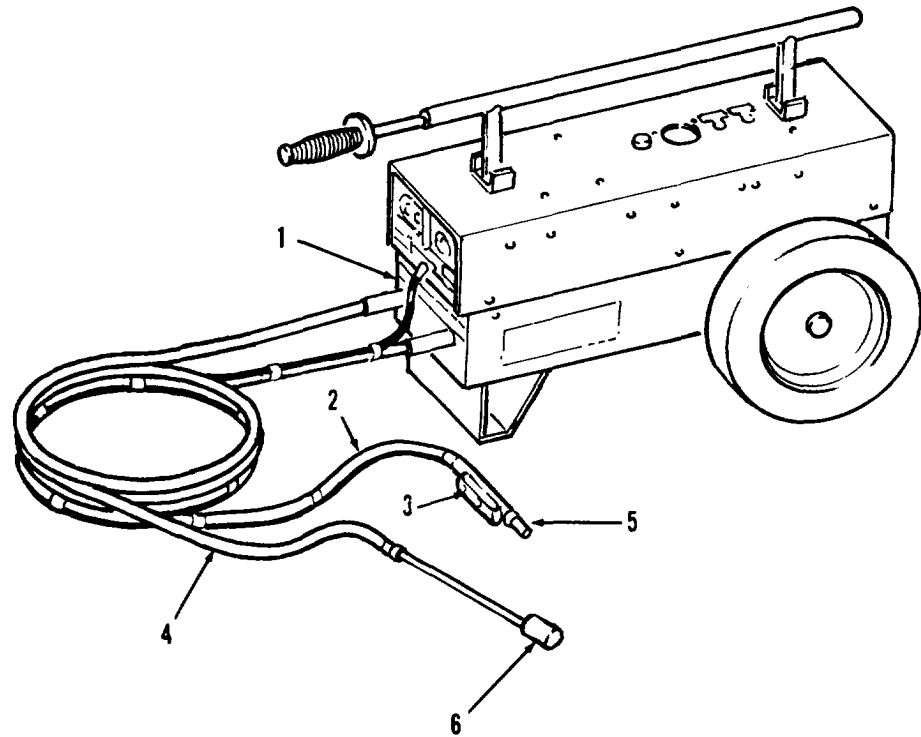
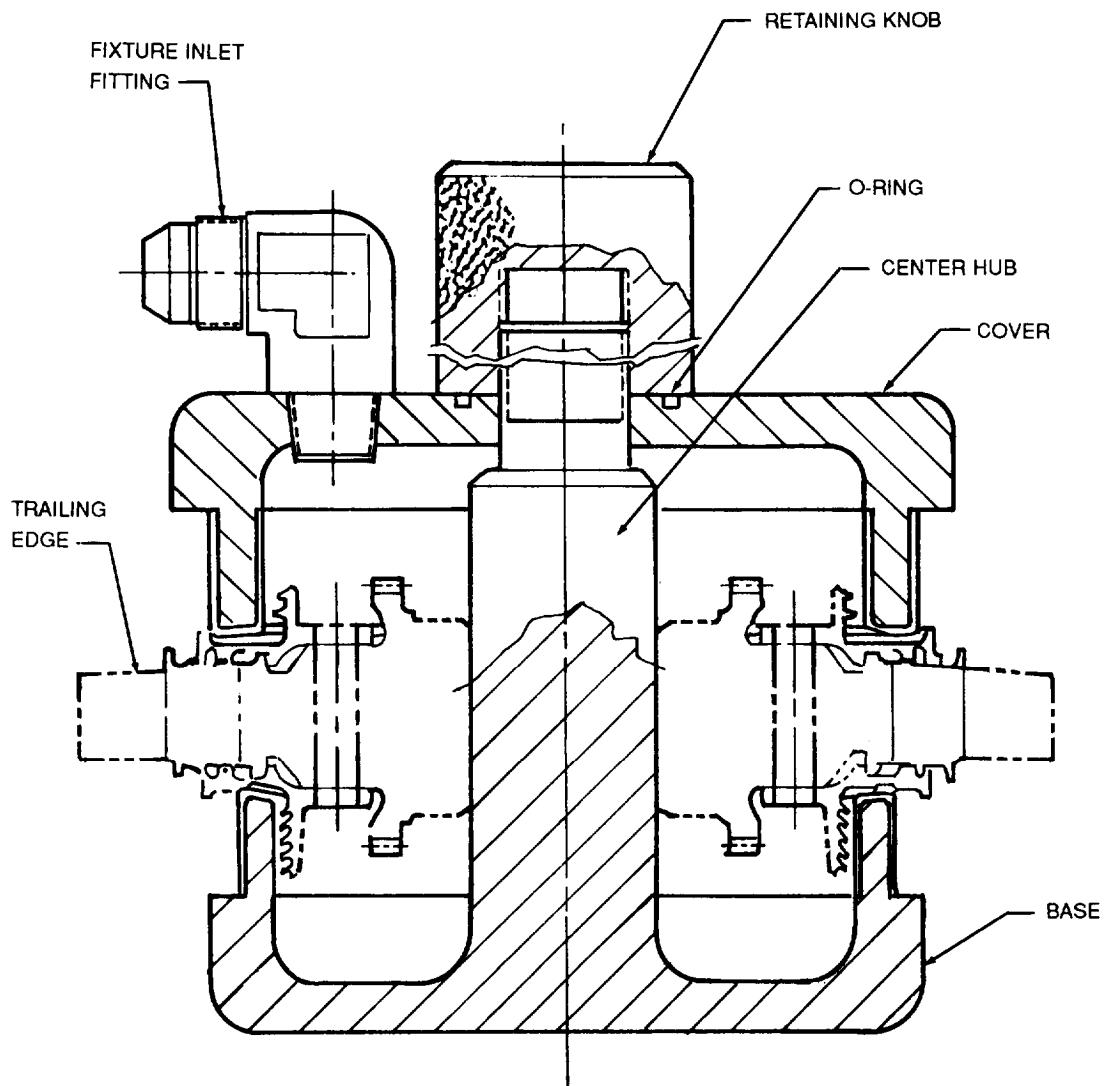
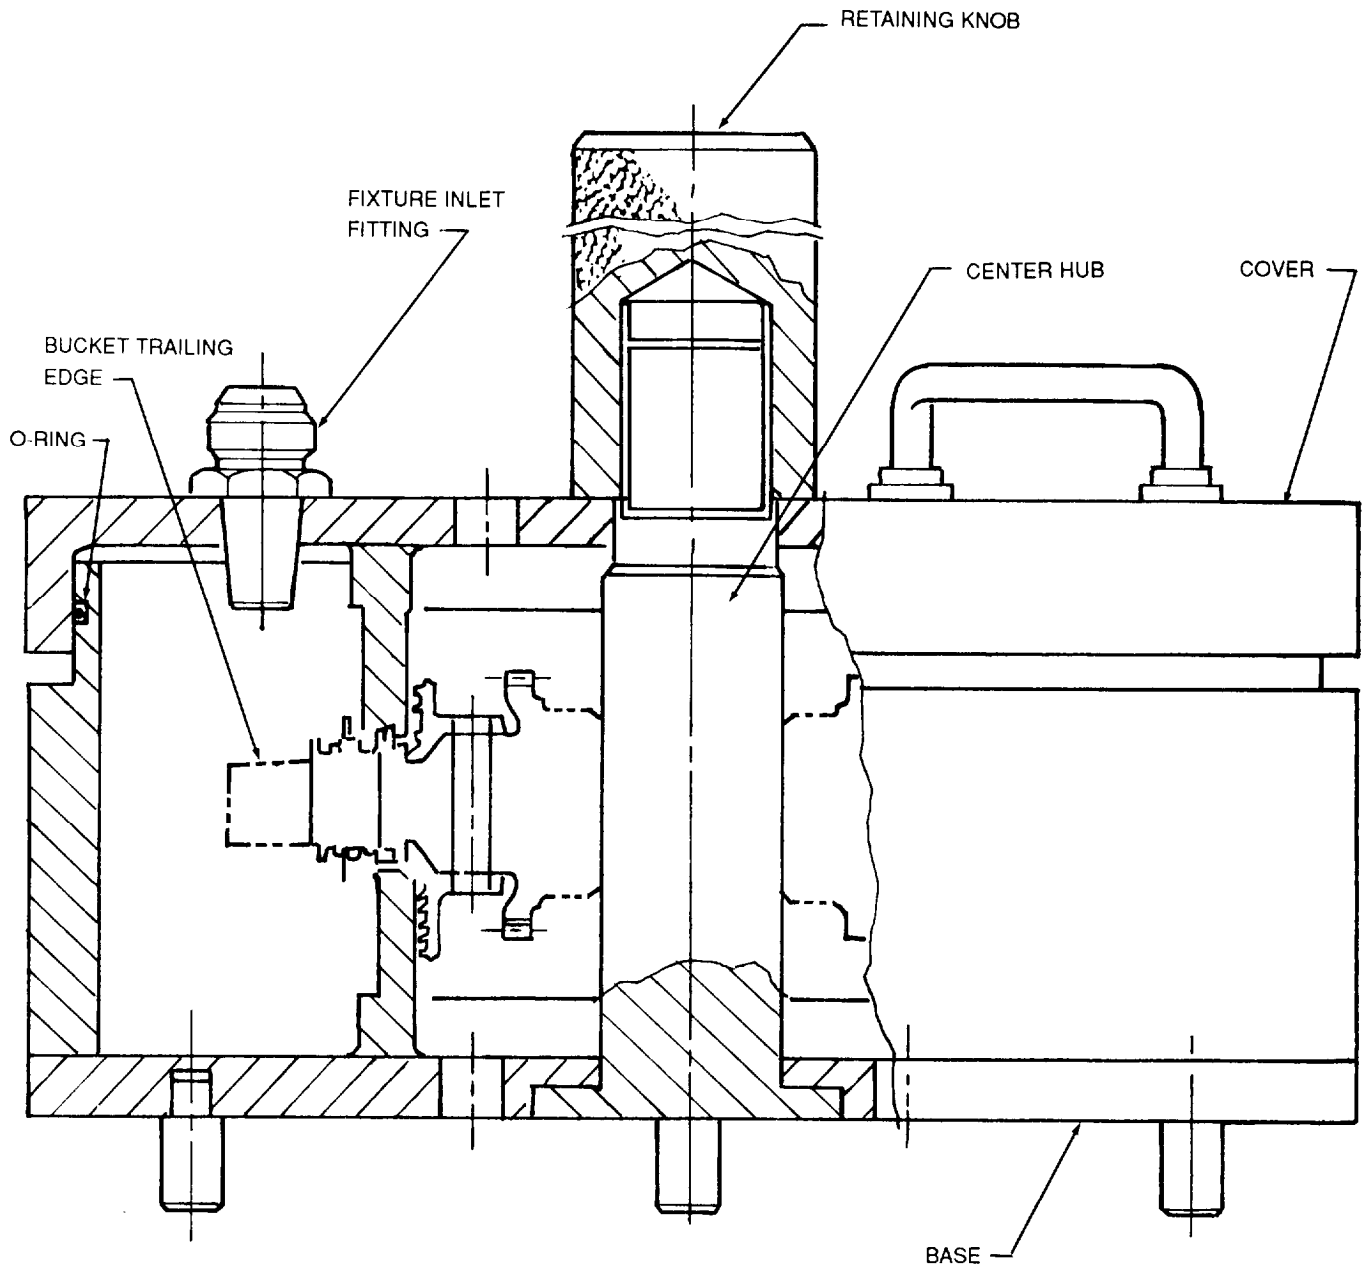
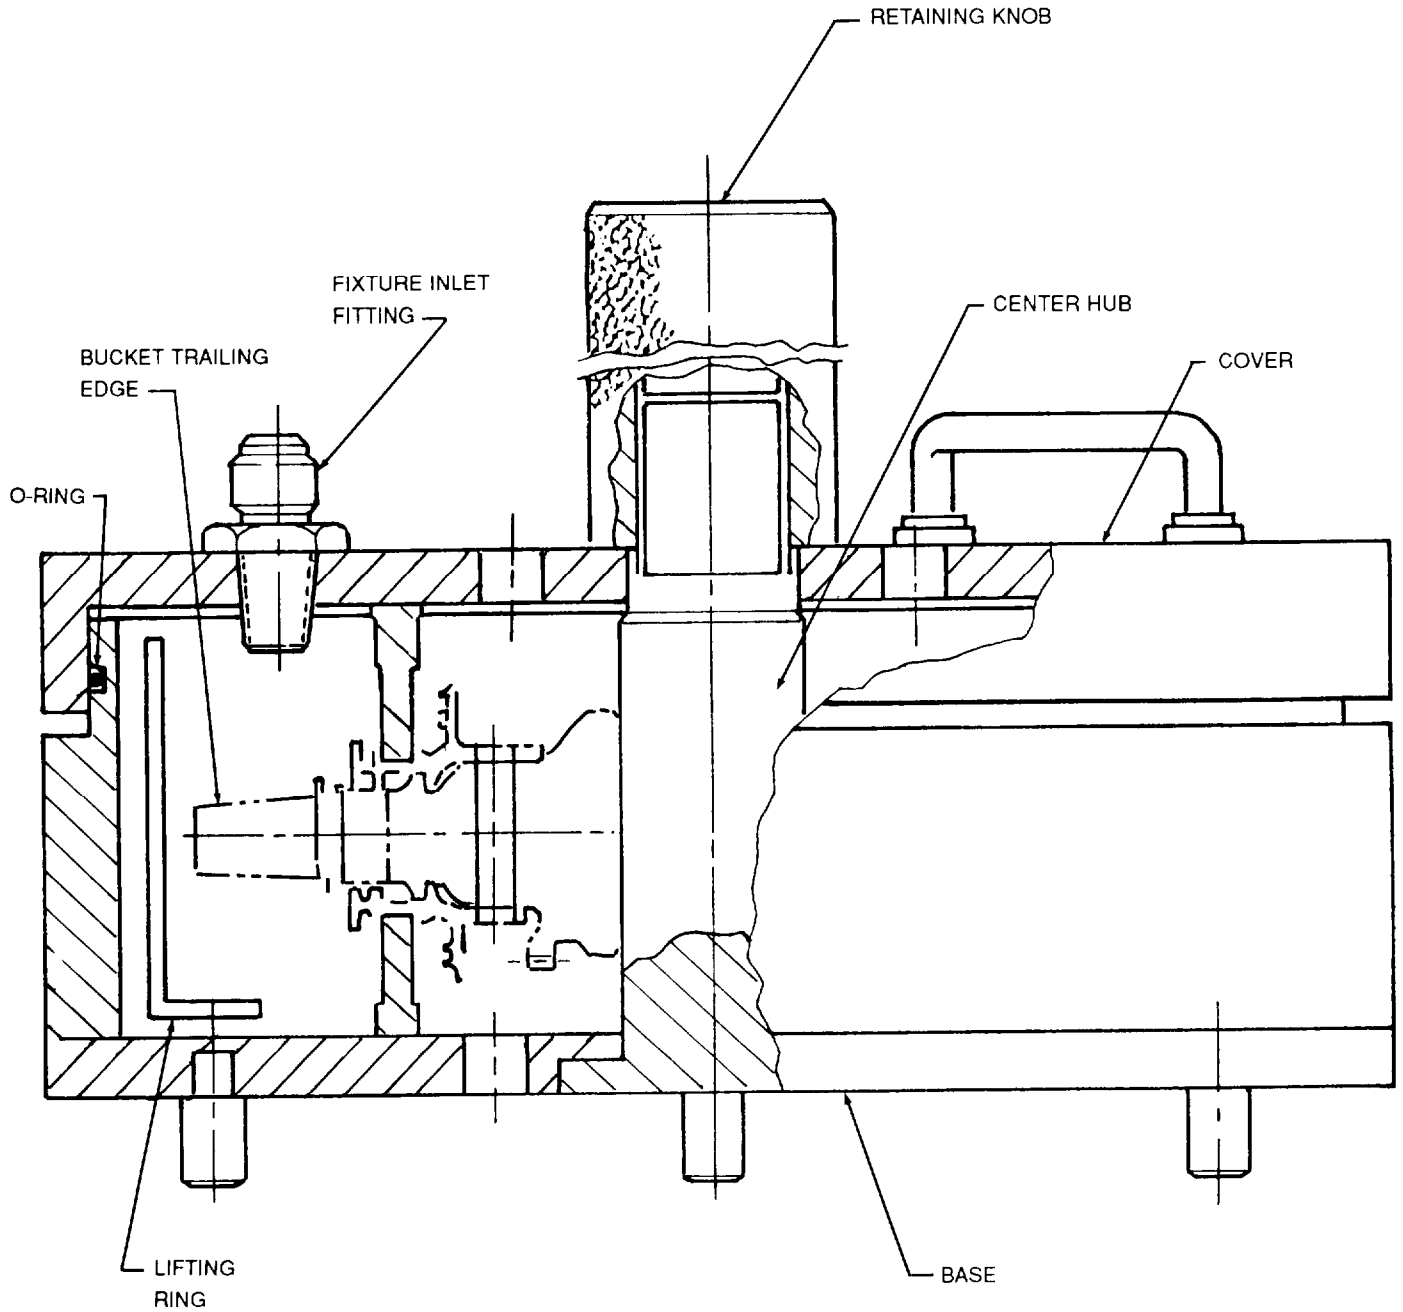

Figure 8.1. Universal Wash Unit-21C2438G01
Figure 8.2. Stage 1 Gas Generator Rotor Forward Flushing Fixture—21C7729C01
Figure 8.4. Stage 1 Gas Generator Rotor Reverse Flushing Fixture—21C7786G01
Figure 8.5. Stage 2 Gas Generator Rotor Reverse Flushing Fixture—21C7787G01
9 Install the pickup assembly (6, fig 8.1) into the container of detergent solution.
11 Raise the fixture (fig. 8.2 or 8.3) slightly above the solution. Then, observe the flow from the cooling air holes at the tips and trailing edges of the blades.
12 If any cooling air holes are plugged, stop the wash unit (1, fig. 8.1).
15 Disconnect discharge hose fitting (5, fig. 8.1) from fixture inlet fitting (fig. 8.2 or 8.3).
16 Remove retaining knob and cover from fixture (fig. 8.2 or 8.3).
17 Remove the rotor from the fixture (fig. 8.2 or 8.3).
1 Remove retaining knob (fig. 8.4 or 8.5) from stage 1 gas generator rotor reverse flushing fixture 21C7786G01 (fig. 8.4) or stage 2 gas generator rotor reverse flushing fixture 21C7787G01 (fig. 8.5).
9 Using reducer fitting part number 22150-10-65 (para 7c), connect the discharge hose fitting (5, fig. 8.1) to the fixture inlet fitting (fig. 8.4 or 8.5).
11 Install the pickup assembly (6, fig. 8.1) into the container of detergent solution.
- 13 Turn remote switch (3) to off.
- 14 Remove pickup assembly (6) and fixture from container.
- 15 Disconnect discharge hose fitting (5, fig. 8.1) from fixture inlet fitting (fig. 8-2 or 8.3).
- 16 Remove retaining knob (fig. 8.4 or 8.5) and cover from base.
- 6 Using reducer fitting part number 22150-10-68 (para 7c), connect the discharge hose fitting (5, fig. 8.1) to the fixture inlet fitting (fig. 8.6).
- 8 Place the pickup assembly (6, fig. 8.1) into the container of detergent solution.
- 9 Using the remote switch (3), start the wash unit (1) and circulate the solution for 15 to 30 minutes.
11 If any cooling air holes are plugged, stop the wash unit (1, fig. 8.1).
14 Disconnect discharge hose fitting (5, fig. 8.1) from fixture inlet fitting (fig. 8.2 or 8.3).
6 Connect the discharge hose fitting (5, fig 8.1) to the fixture inlet fitting (fig. 8.7).
8 Place the pickup assembly (6, fig. 8.1) into the container of detergent solution.
12 If solution does flow equally then, turn remote switch (3, fig. 8.1) off and remove pickup assembly (6) and fixture from container.